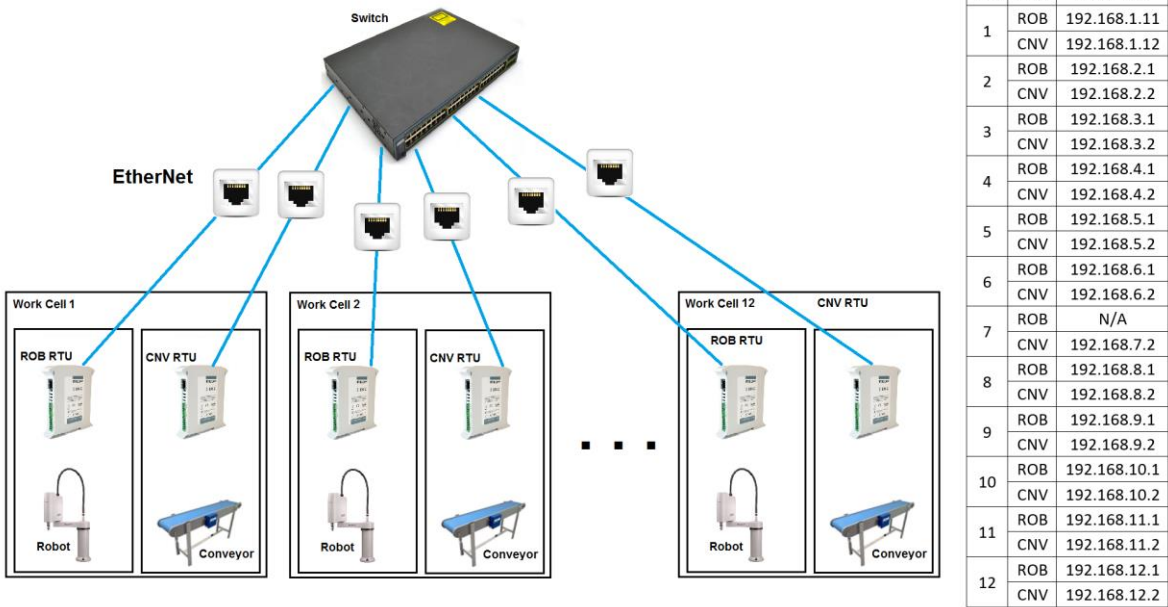
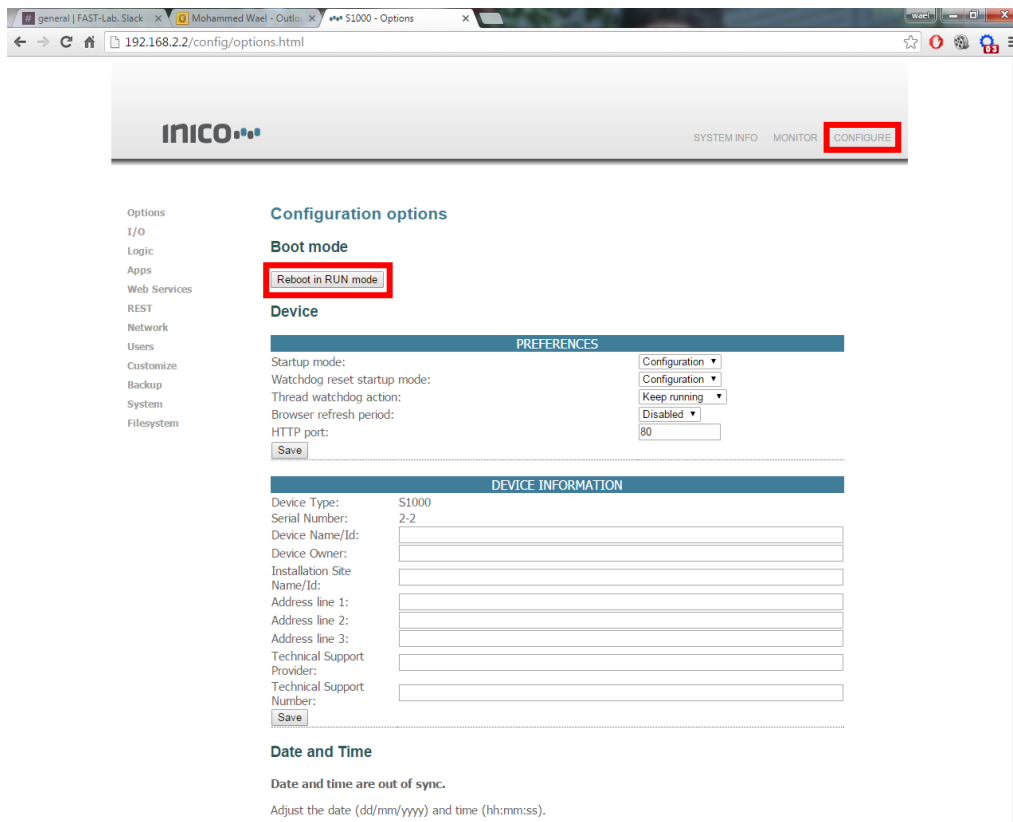

Figure 12: FASTory network configuration
Figure 14: Configuration page in the RTU
3. Go to the dedicated INICO page in the web browser using the defined IP addresses for the conveyor(192.168.z.x) and the robot(192.168.z.y) where x,y and z can be seen in Figure 12. After that, the user can change the mode (config/run) of the RTU. See Figure 14. The RTUs are already programed and it is not expected from students to change the program. You may though ensure that the controllers are in the RUN mode already. By introducing IP address in the web browser, you may in general case just check that the RTU is reachable.